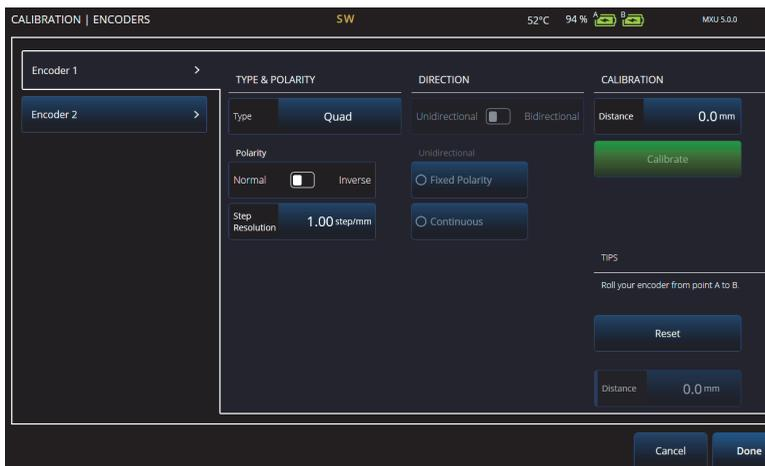

Figure 5-1 Encoders setup
- ◆ In the **Scan > Inspection > Type** list, choose the type of scan to be used to scan the part, and choose the encoder that is to be used for the scan axis. The other encoder is automatically linked to the index axis. Select **Scan > Inspection > Encoders** to access the encoder setup screen, and set the encoder parameters according to your specifications (Figure 5-1 on page 120).